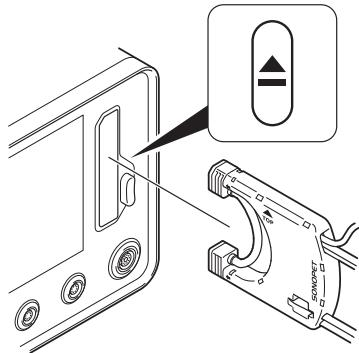

Figure 118 – Irrigation Suction Cassette Removal
1. Press the EJECT button on the console and remove the irrigation suction cassette from the console (Figure 118).